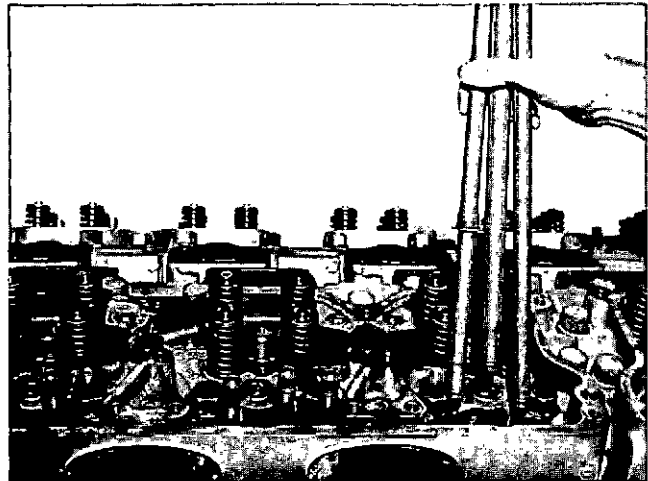

Fig. 14-1-57, V41499. Installing push tubes
4. Insert push tubes in their respective tappets, there must be 0.060" [1.5240 mm] clearance between the lever and socket. The largest one in the center is for the injector. Tubes with lift collars are for intake valves. Fig. 14-1-57.